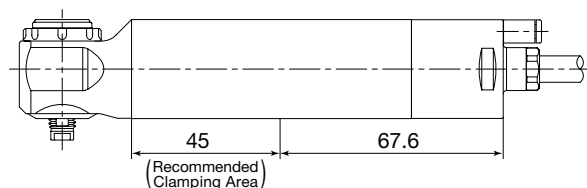

Fig. 11
- When mounting the spindle avoid the area where bearings are located. If the spindle is mounted inappropriately, this will cause and damage to the spindle. (Refer to the recommended clamping area drawing in Fig. 11)